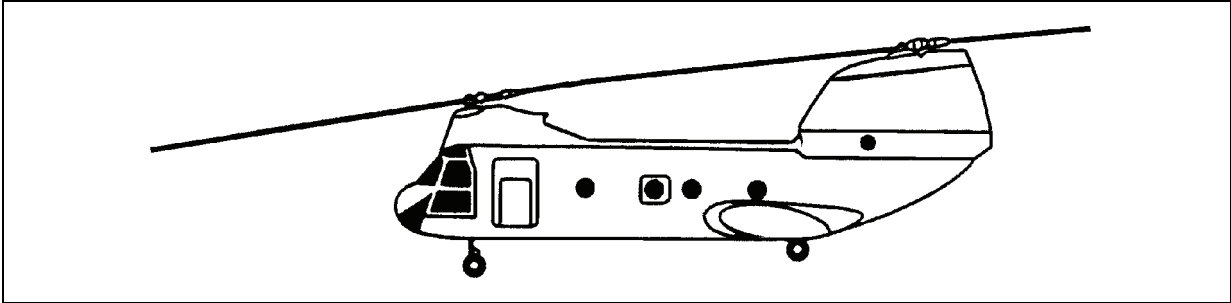
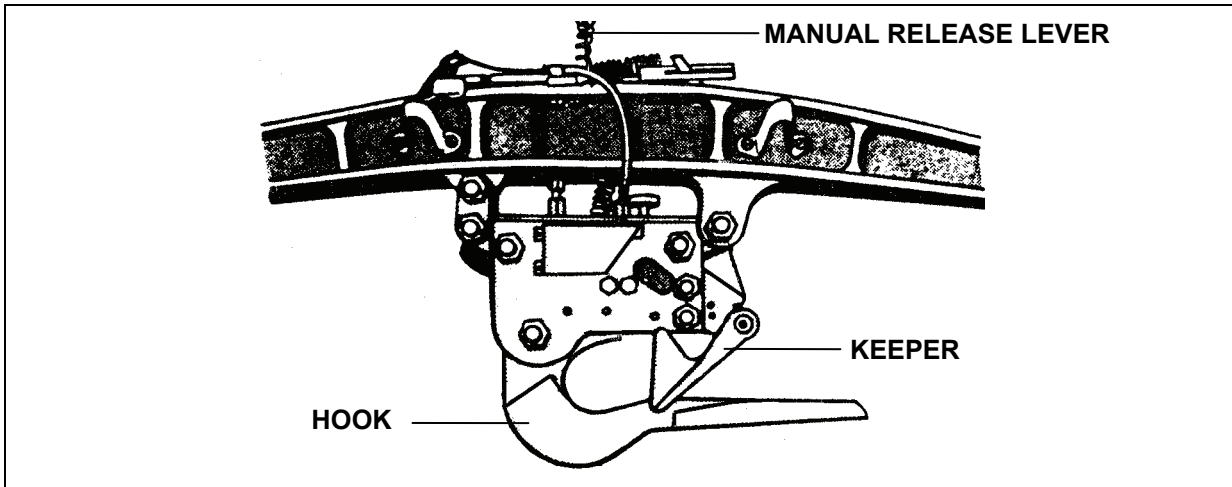

Figure 2-10. CH-46 Sea Knight
Figure 2-11. CH-46 Cargo Hook System
- **CH-46A/D/E.** The CH-46A/D/E Sea Knight (Figure 2-10) is a twin engine, tandem rotor helicopter manufactured by the Boeing Helicopter Company. The primary mission of the CH-46 is to rapidly deliver combat troops, support equipment, supplies, and perform vertical replenishment (VERTREP). The cargo hook maximum capacity is 10,000 pounds (Figure 2-11). The AC6000500 Mod-1 pendant may be used with this helicopter. The cargo hook is normally opened electrically or manually by the aircrew. The manual release cable is mounted on top of the cargo hook and is only accessible to the aircrew.